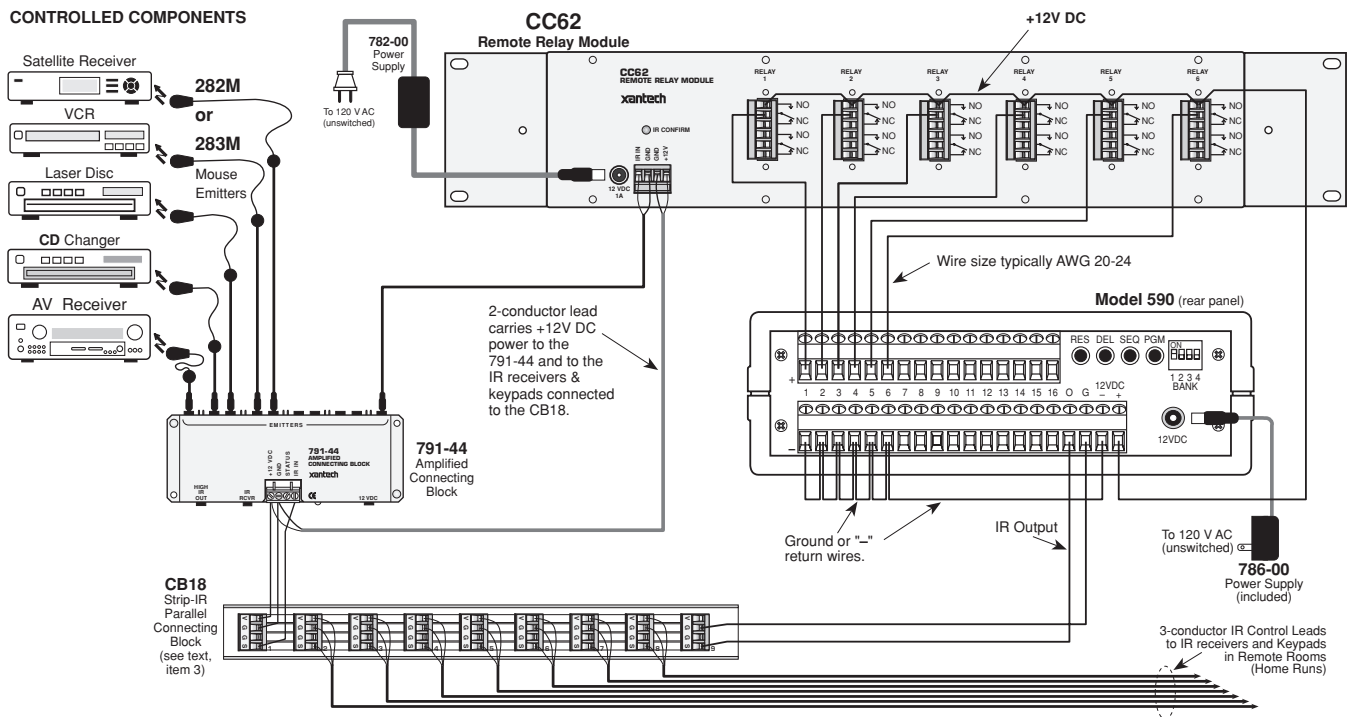

Fig. 5 Using a CC62 to provide switch closures for a 590 Programmable Controller
- Another important application of the CC62 is to provide IR-to-switch closures for a 590 Programmable Controller. This permits multiple sequenced commands to be generated from a single RC68+ IR command or to convert RC68+ commands to other brand commands. **Fig. 5** illustrates such a system.
3. A CB18 Strip-IR Connecting Block is used in **Fig. 5** to make the many parallel connections from the IR devices to the 791-44 Connecting Block. In this example, 8 IR devices are shown connected to the